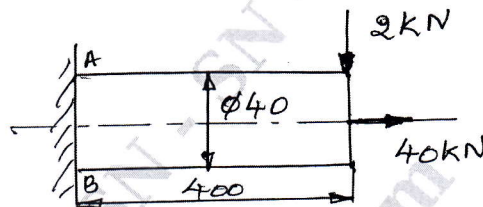

Fig.Q1(c)
- c. Determine the stress induced for the loaded member shown in Fig.Q1(c) at points A and B.